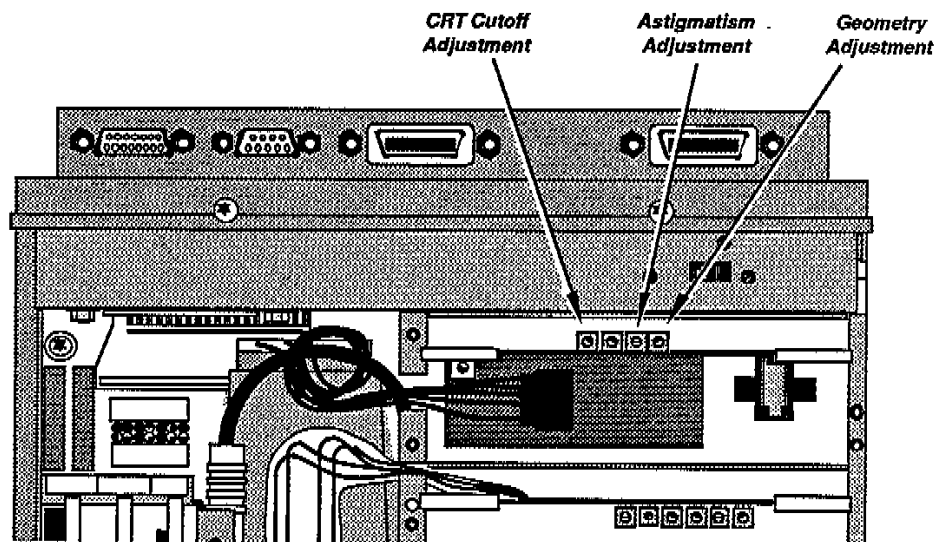

Figure 3-6. High Voltage Module Adjustments.
2. Adjust the CRT CUT-OFF adjustment on the high voltage board (shown in Figure 3-6) until the dots that are normally blanked in the crt display are visible. Then, back off on the adjustment until the dots becomes just invisible.
1. Adjust the GEOMETRY adjustment on the high voltage module (shown in Figure 3-6) for optimum orthogonality of the horizontal and vertical graticule lines. This means that both the horizontal and vertical lines should be straight with very little or no bowing.